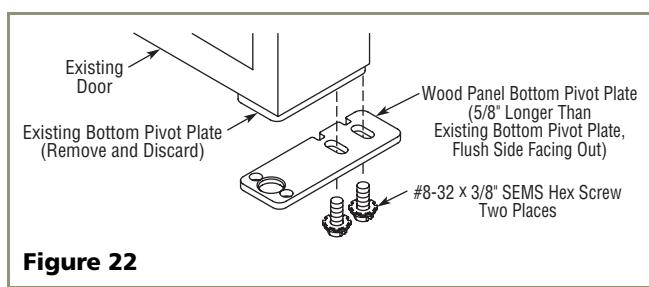

Figure 22
- Remove the existing bottom pivot plate and replace with the Full Overlay pivot plate (see **Figure 22**).